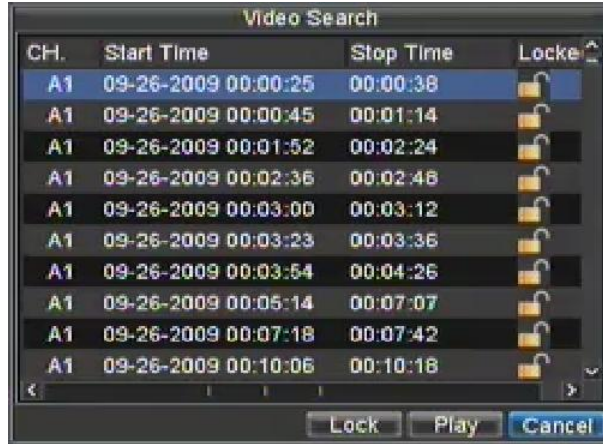

Figure 7. Video Search Result List
3. Click the Search button. A list of recordings (similar to Figure 7), matching the search parameters will be displayed.